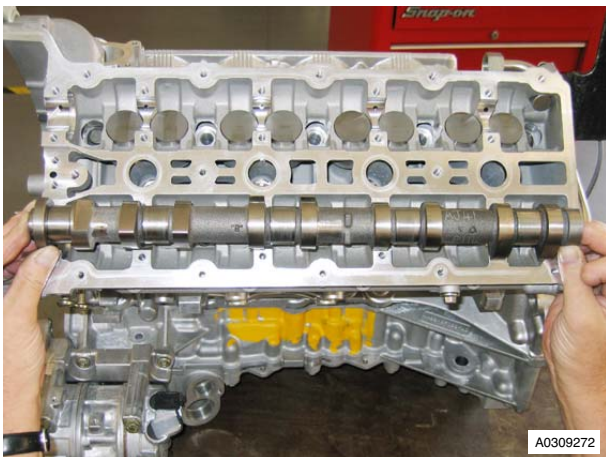

Figure 2
9. Remove LH exhaust camshaft (see Figure 2).